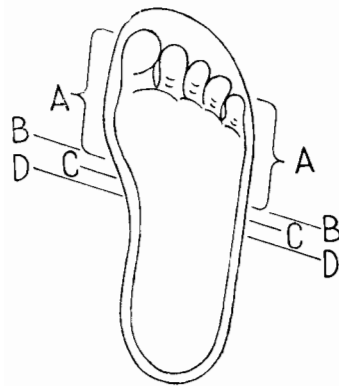
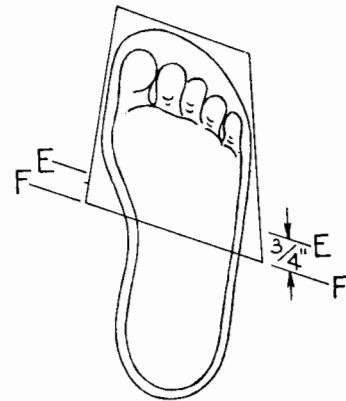
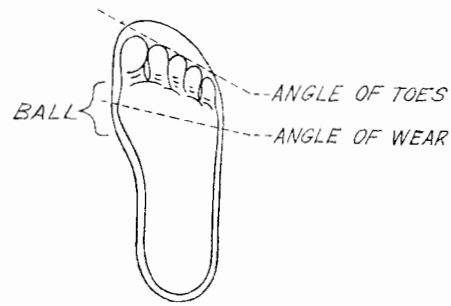

Fig. 80. Length of half soles.
Fig. 81. Length of half soles.
Fig. 85. Angle of wear.
In Figure 80 the letters refer to the following:
*E* in Figure 81 is the point at which old soles should be cut off. It corresponds to point *B* in Figure 80 or just behind the ball of the foot.
*F* to *E* in Figure 81 is the taper or bevel which corresponds to point *D* in Figure 80.
The length of the half sole depends upon the particular shoe that is being repaired, because no two feet are alike. A person with short, low, or weak arches needs longer half soles than the average person. Therefore, care should be taken that the joint reaches well beyond the wearing point shown at *B*, Figure 80. At the same time, the half sole should not be longer than necessary because that would weaken the arch in the shoe. In that case it would be far better to repair the shoe with a full sole.
The angle of sole replacement should follow the angle of wear, as shown in Figure 85 because this also is the angle at which the foot bends (C, Fig. 80). This can be more easily understood if it is remembered that this angle follows the angle of the toes.
well behind the wearing point shown at *B*, Figure 80, or just behind the ball of the foot.
When the old sole is used as a pattern, allowance should be made for the taper at one end. The new sole, therefore, should be not less than  $\frac{3}{4}$  in. and perhaps 1 in. longer than the pattern. If the old sole cannot be used as a pattern, one can be quickly and easily made of paper. A piece of paper can be placed over the bottom of the sole, with the straight edge at the angle and position shown at *F*, Figure 81. It is held with one hand and then is pressed down over the edge all the way around with the other hand, thus creasing it according to the shape of the sole. Cutting this paper along the crease will make a perfect outline and an excellent pattern.